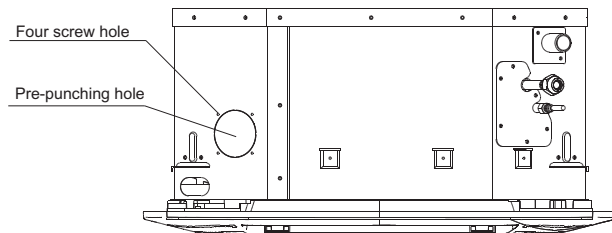

Fig.27
(3) The installation of ventilation motor and ventilation pipe (if necessary)
- Using a tool to knock off the pre-punching hole. (Refer to Fig.27)
- Four screw reserved for installation. (Refer to Fig.27)